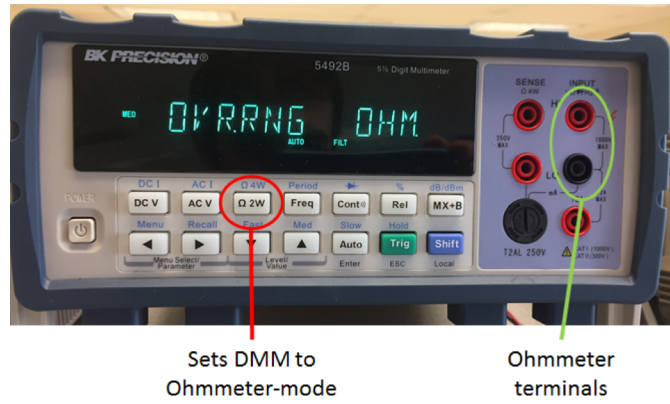

Fig. 2: Photograph of the DMM.
- (a) **Get Parts:** Obtain a protoboard, a 1 k Ω and a 9.1 k Ω from the TAs. Measure the value of each resistor with the DMM. Record these values for your lab report. For reference the DMM is shown in Fig. 2 along with the identification of key features such as Function Select Keys and lead connections.